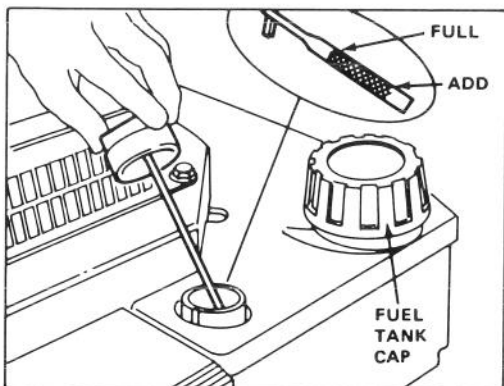

Figure 6
3. Wipe dipstick and insert it into filler neck. Rotate cap clockwise 1/4 turn. Then remove dipstick and check level of oil (Fig. 6). If level is low, add only enough oil to raise level to FULL mark on dipstick. **DO NOT FILL ABOVE FULL MARK BECAUSE ENGINE COULD BE DAMAGED WHEN STARTED.**
1. Clean around fuel tank cap and remove cap from tank (Fig. 6). Using unleaded gasoline, fill fuel tank to within 1/2 inch (13 mm) from top of tank.